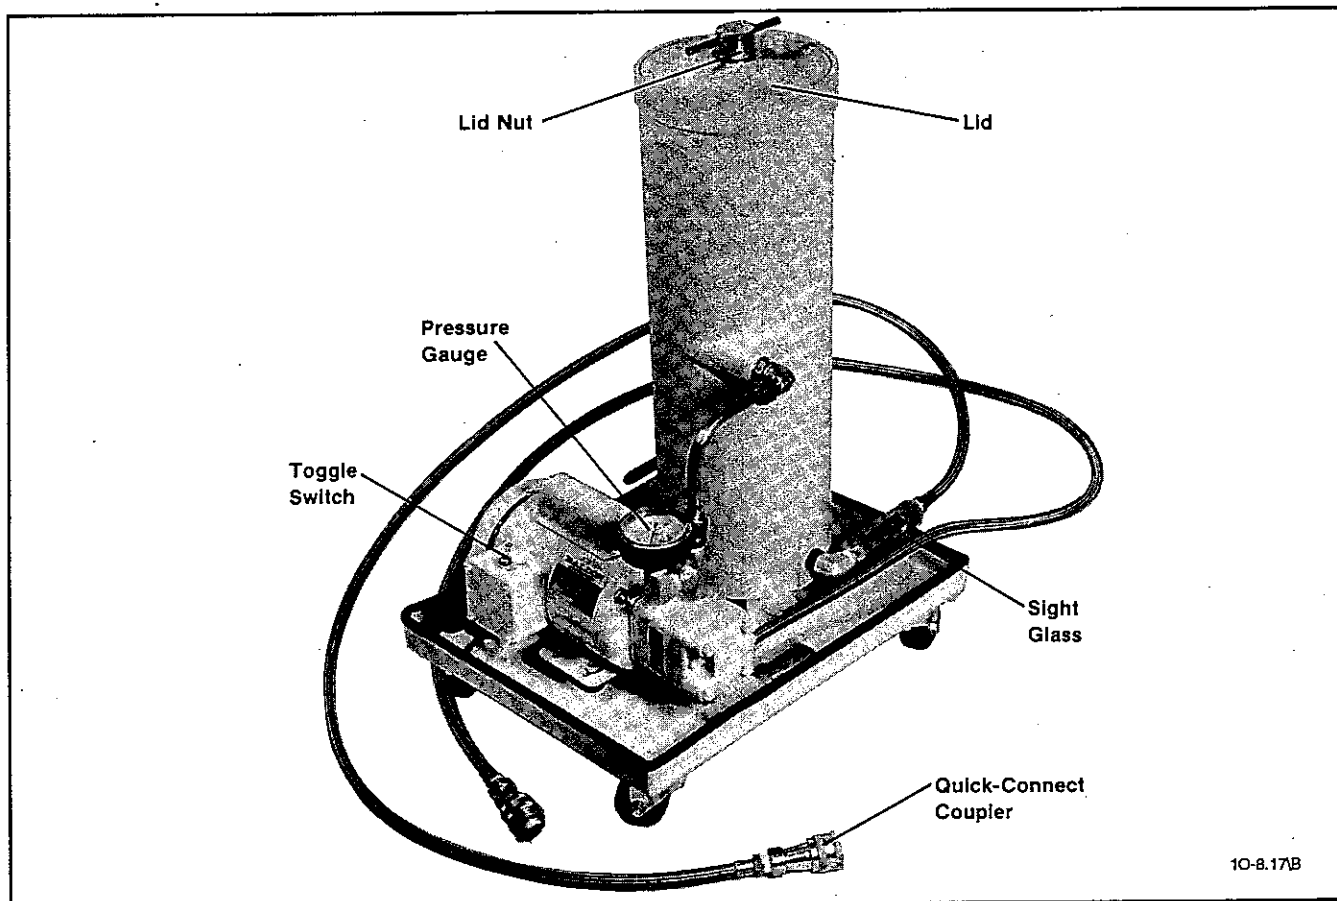

Figure 4-1. OF-3000 Oil Filtering System
Use either the neutralization number test (ASTM Method D 664 or D 974) or the INLAND test kit* to test your oil for acidity. The INLAND test tells you whether or not the oil is too acidic; whereas, the neutralization number test quantifies the exact acidity of the oil. To obtain a good sample for testing, turn off the OF-3000 gear pump, disconnect the hose from the vacuum pump's oil-fill port and catch the few drops of oil that drip out of the quick-connect coupler (12) (see Figure 4-1). If the neutralization number of hydrocarbon oil exceeds 1 mgKOH/gram, it should be changed.
1. Switch off the OF-3000's gear-pump motor (see Figure 4-1).
3. Proceed as follows to install a new filtering element (see Figure 4-1).
- a. Allow the pressure on the OF-3000 gauge to reach 0 psig (see Figure 4-1) and then unscrew the lid nut (H4) and remove the lid (H2) from the canister.
- k. Check the canister for oil leaks. If there is any leakage, tighten the lid nut by hand until the leak stops (see Figure 4-1).